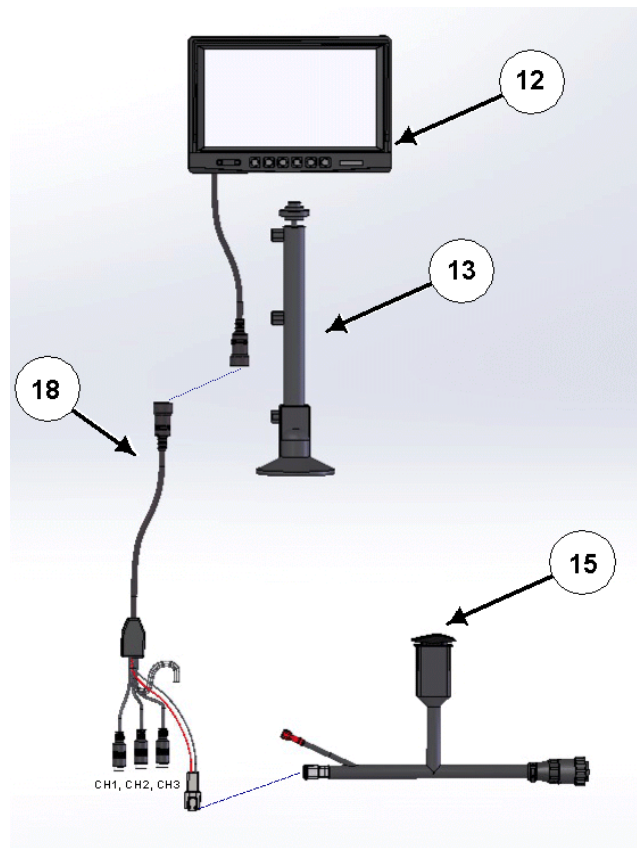
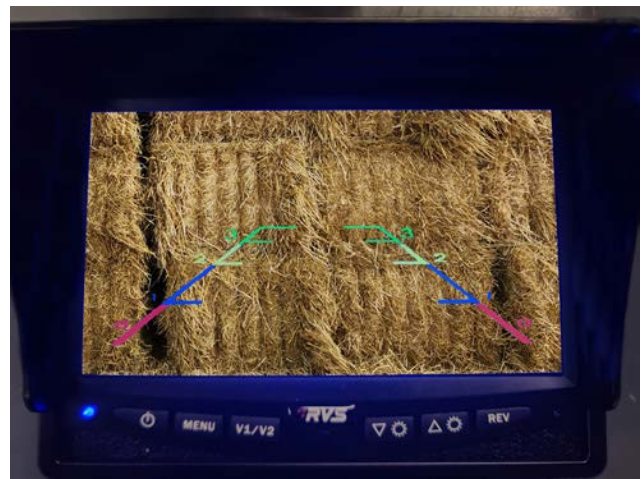

Figure 7: Monitor and electrical components
Figure 8: Monitor showing grid-lines
- a. Attach the monitor (12) to the extendible mount (13), see *Figure 7*.
5. Connect the rear camera cable extension to the blue (CH3) connector on the monitor power harness (18), see *Figure 7*.
6. Connect the side rack camera cable extension to the either the white (CH1) or brown (CH2) connector on the monitor power harness (18), see *Figure 7*.
7. Connect the switch (15) to the monitor, and connect the system to power, see *Figure 7*.
- a. Connect the blue wire (port #3) on the monitor power harness (18) to the switched power lead on switch power harness.
- b. Connect the switch power harness to the monitor power harness (18) as per *Figure 7*.
- c. Connect the power (red) 12V+ wire on the monitor power harness (18) to the 12 volt ignition power, see *Figure 7*.
- d. Connect the ground (black) line on the monitor power harness (18) to the chassis ground.
3. Use the switch (15 - *Figure 7*) in the tractor cab to switch to viewing the rear camera with the grid-lines turned on, as shown in *Figure 8*.